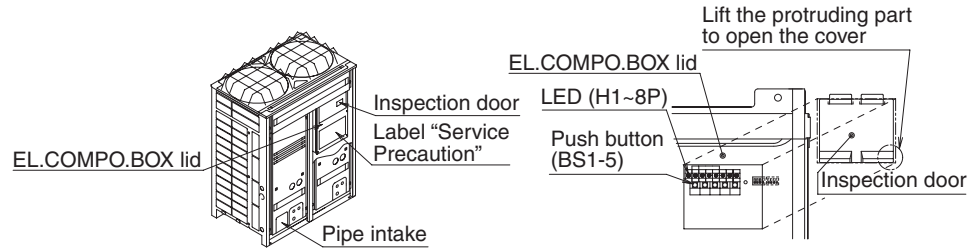
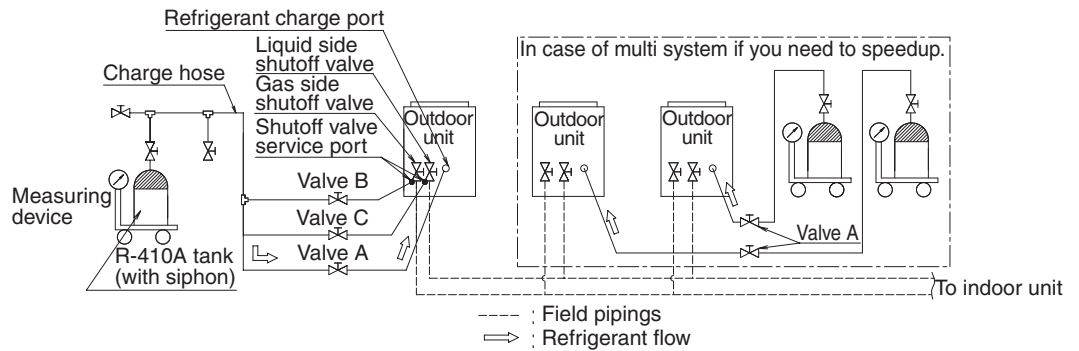

figure 32
figure 33
4. Perform the refrigerant charging operation following [Refrigerant charging operation procedure] as shown below, and charge the remaining refrigerant of the “additional charging amount”. For performing the refrigerant charging operation the push button on the PC-board (A1P) of outdoor unit (In case of multi system master unit) are use. (See the figure 32) In addition, the refrigerant are charged from the refrigerant charge port via the valve A. (See the figure 33)
If you need to speedup in case of multi system, connect the refrigerant tanks to each outdoor unit as shown in the figure 33.
- (1) Open the liquid and gas side shutoff valves (The valve A~C must be closed. The valve A~C means the valves in the figure 33.)